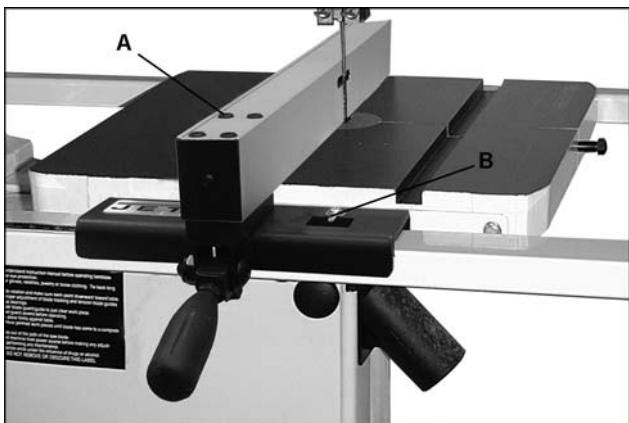

Fig. 7
- Position the fence along the blade and tighten the handle. To make an adjustment loosen four hex cap bolts (A, Fig. 7) and align the fence with the blade. Tighten bolts.
- Check to see that the pointer (B, Fig. 7) is aligned with the zero marking on the guide rail. If adjustment is necessary loosen the screw that holds the pointer in place. Adjust as necessary.